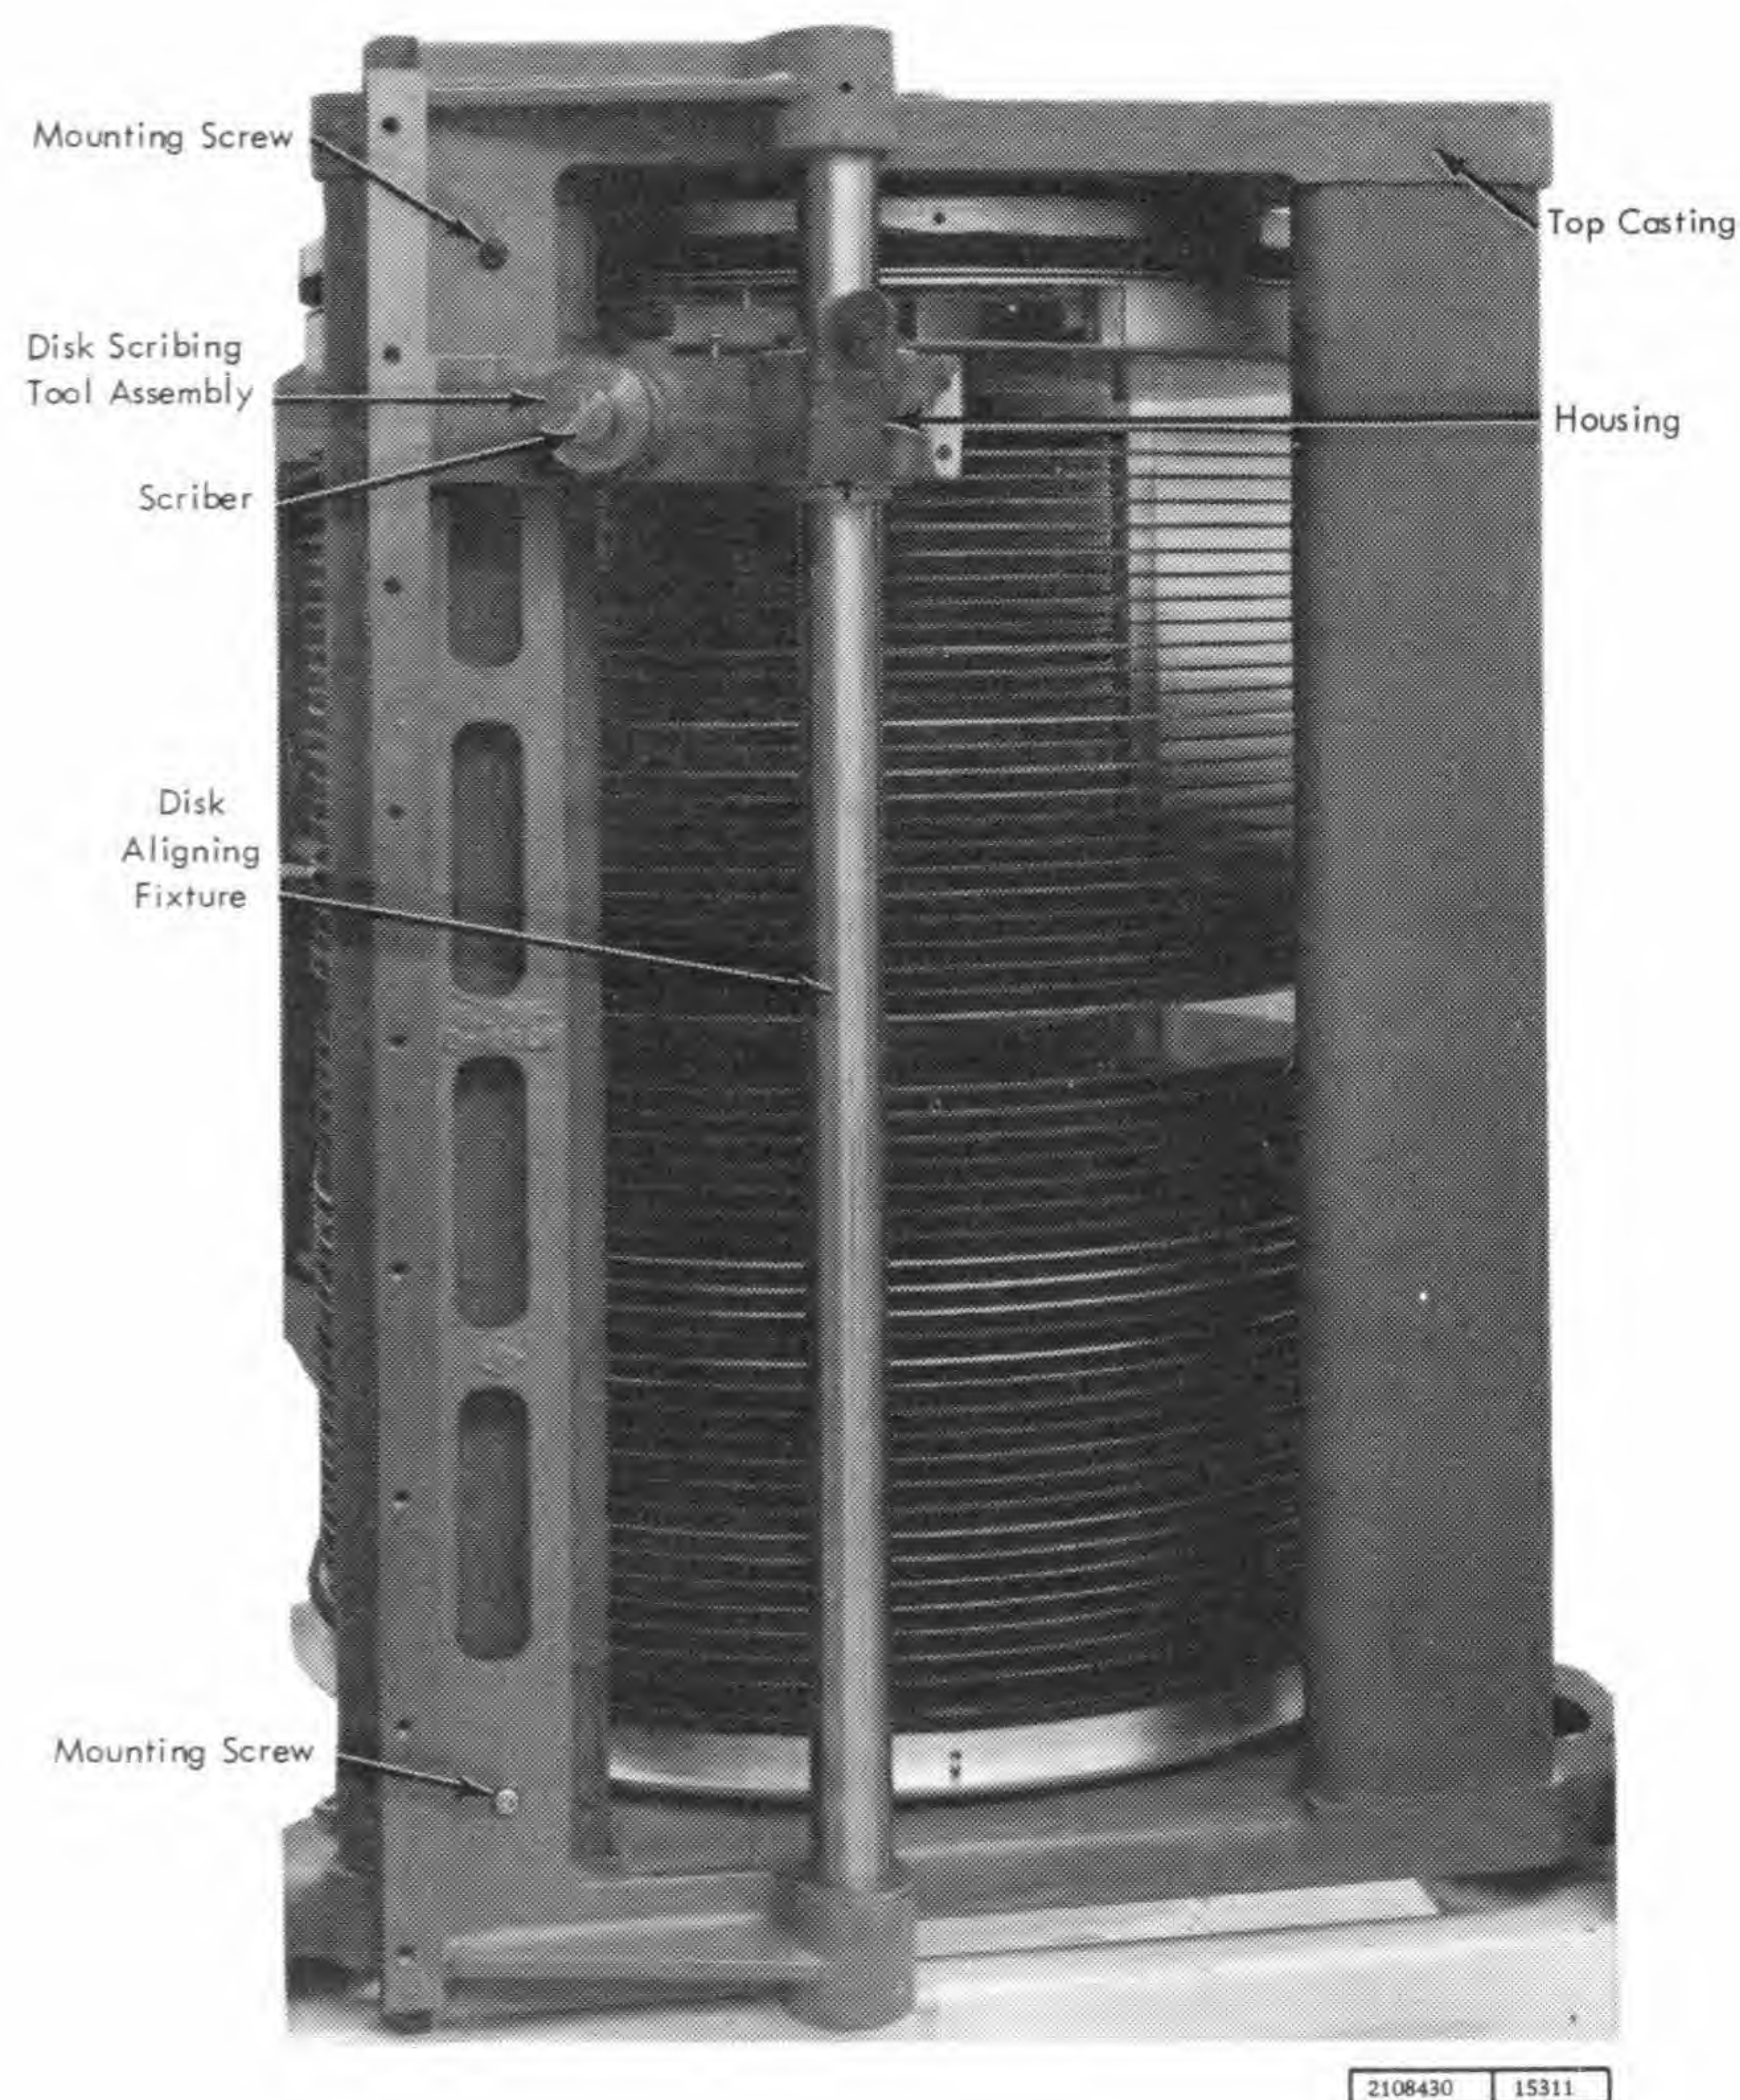
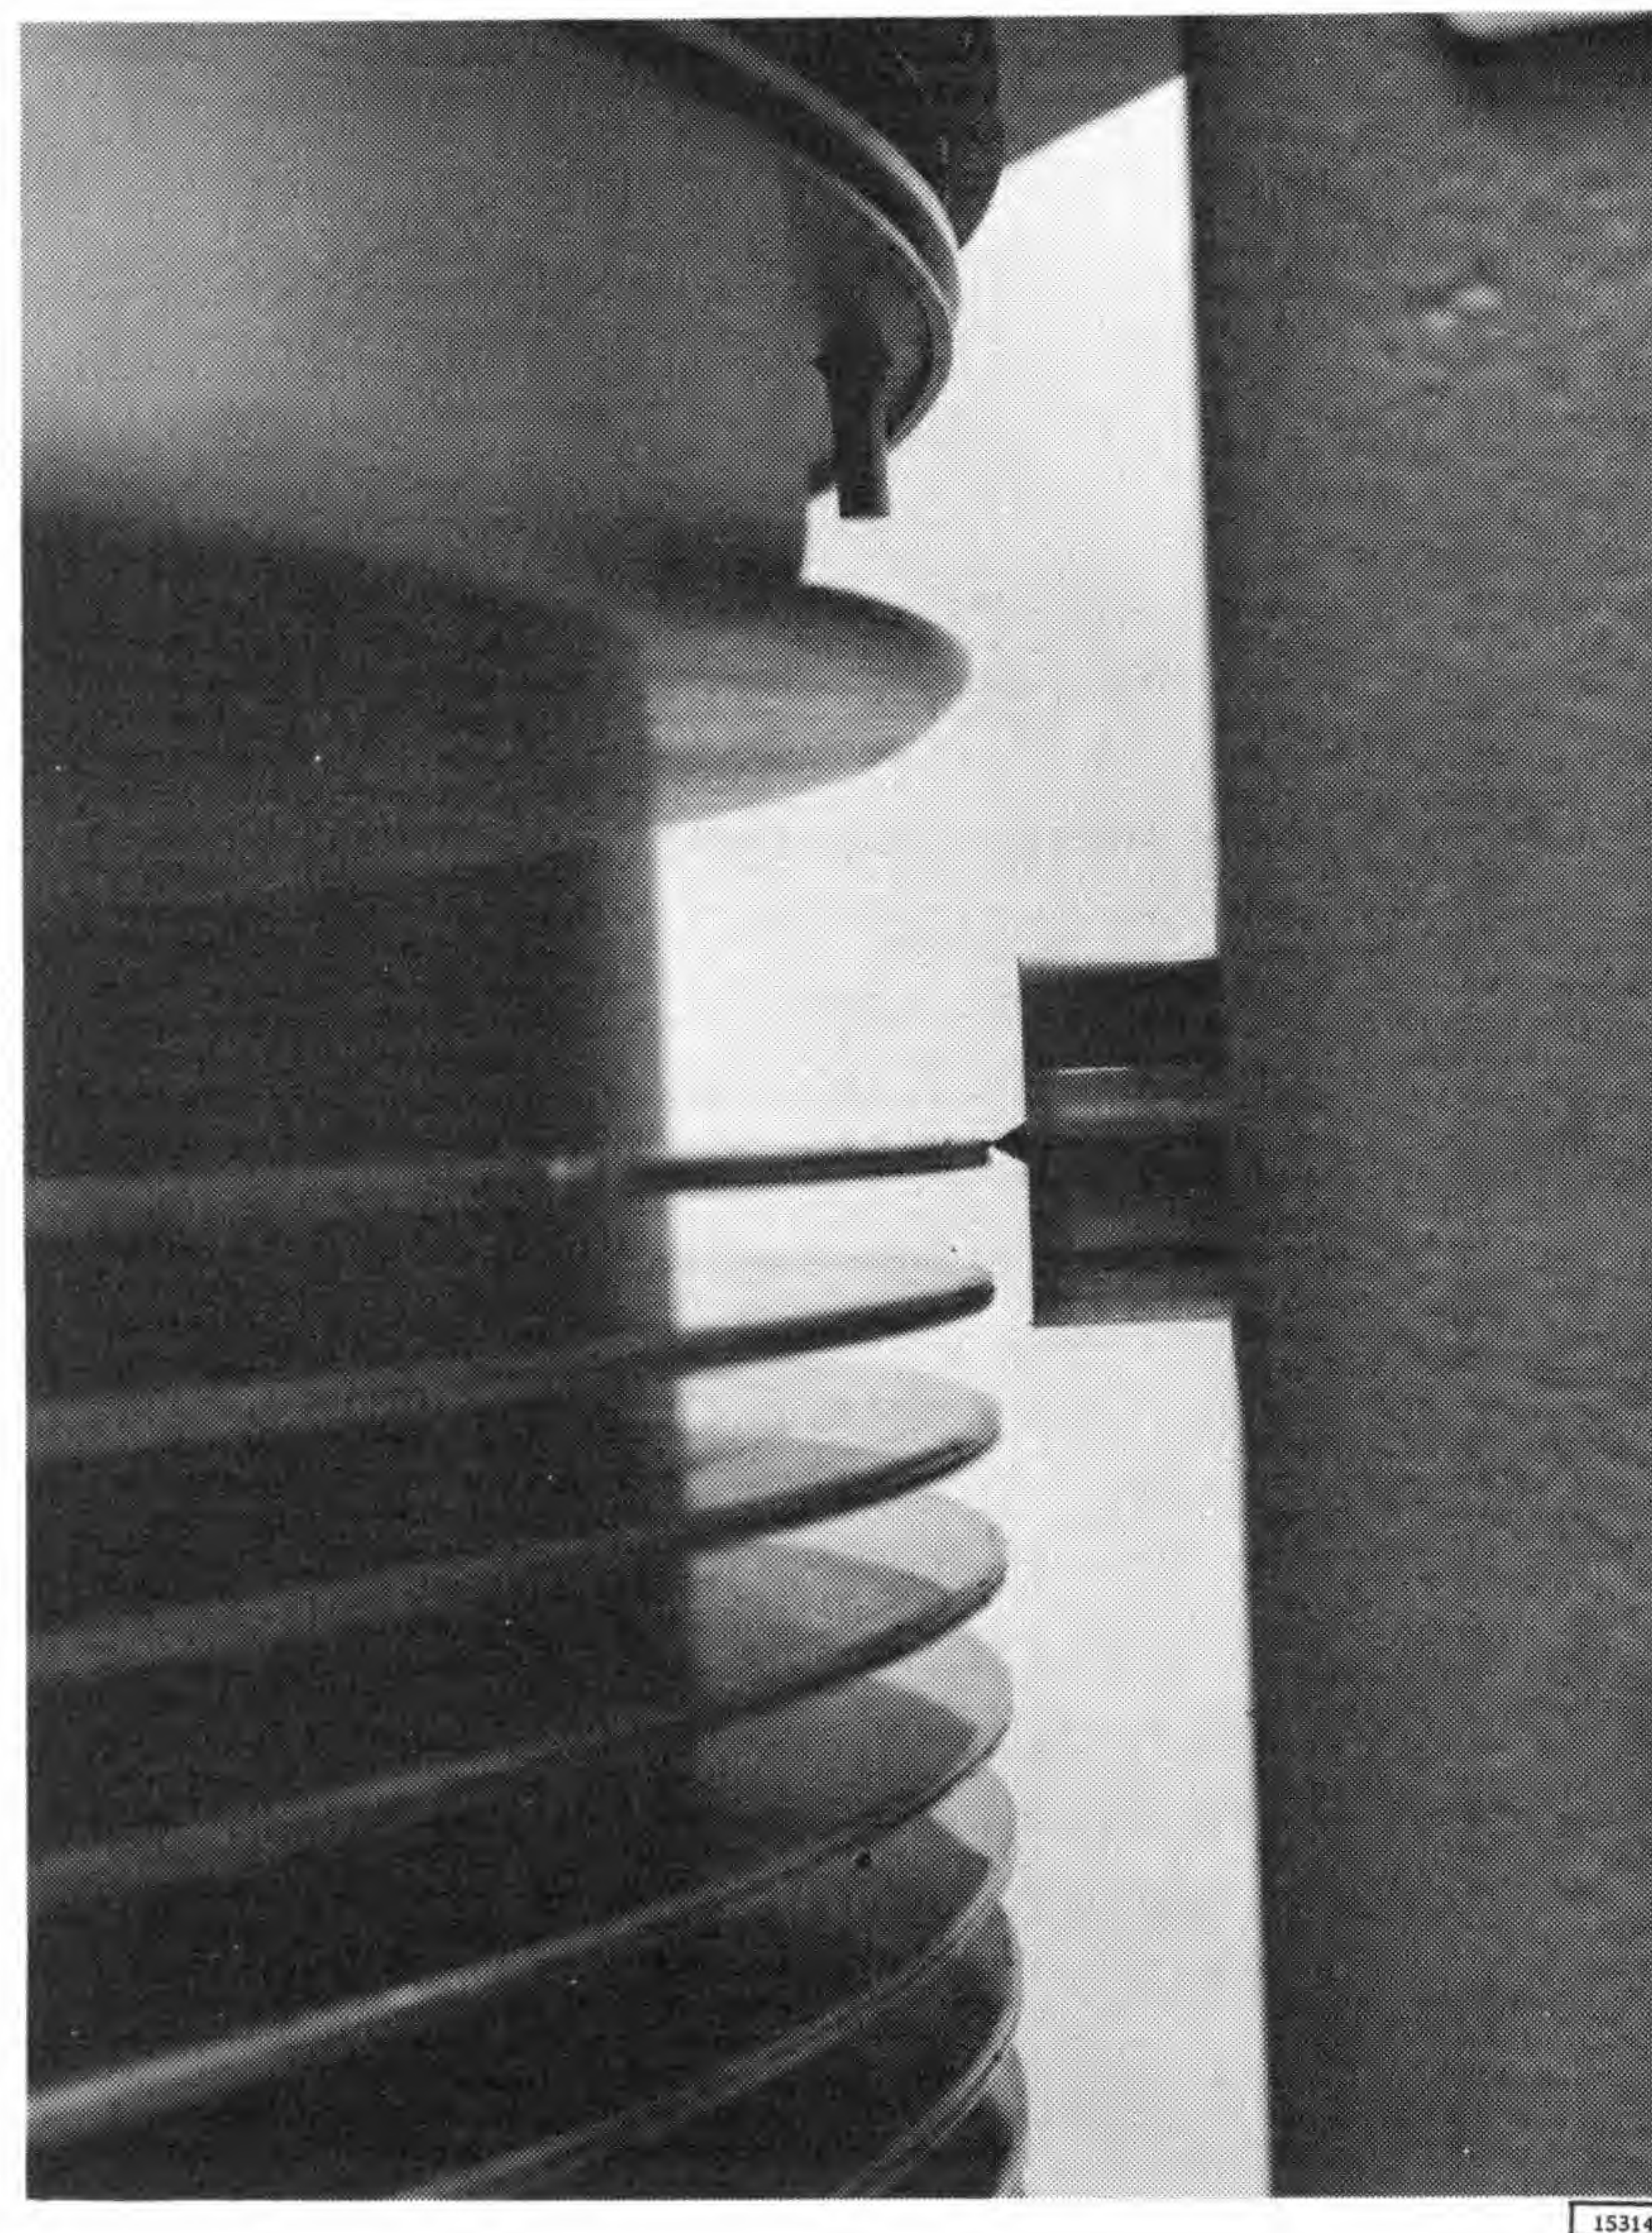

Figure 2-6. Disk Scribing and Aligning Fixture
Figure 2-9. Disk Scribing
8. Mount the disk scribing and aligning fixture assembly (Figure 2-6) to rear support casting and tighten the two screws 140 \pm 10 in. lb. torque.
11. Insert the disk scribing tool assembly into housing (Figure 2-6). Rotate scriber until point is just short of making contact with edge of disk (Figure 2-9). Move scribing tool up and down over the full length of the disk edge, while slowly rotating scriber, until disk is scribed. Back out scriber while moving from one disk to another. Remove scriber.